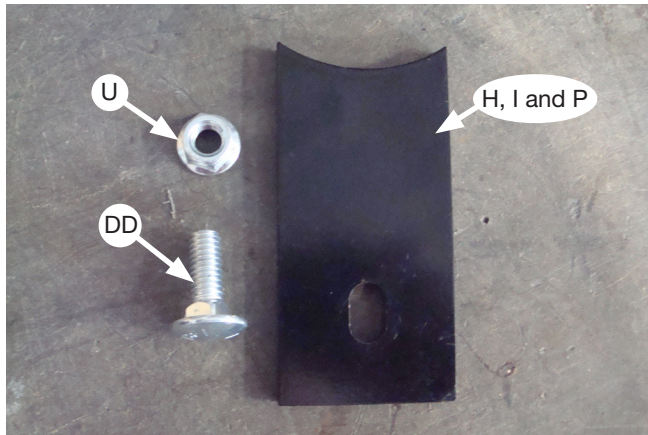
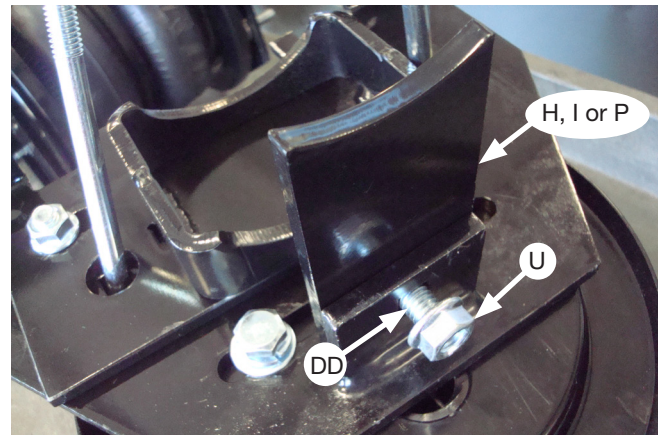

Fig. 15
Fig. 16
7. Select the appropriate leg adapter for the specific vehicle, as noted in the chart. Use Tremor adapter (H) for Tremor models. For non-Tremor models, use the 3.5" (I) or 4" (P) adapter, depending on what the vehicle has for the axle diameter. Attach the appropriate adapter with a 3/8"-16 x 1" carriage bolt (DD) and 3/8" serrated flange lock nut (U) (Fig. 15). Install as shown (Fig. 16). Push adapter against the lower bracket and torque the hardware to 16 lb.-ft. (14Nm).